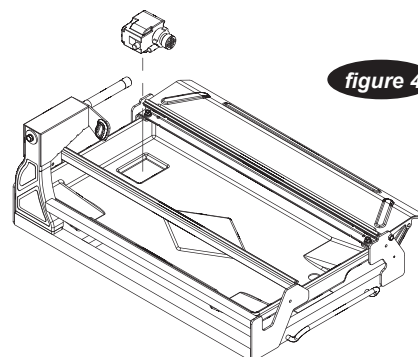

figure 4
2. Place the pump onto the recessed area of the water tray. The pump should be oriented such that the water outlet is horizontal. (see figure 4)